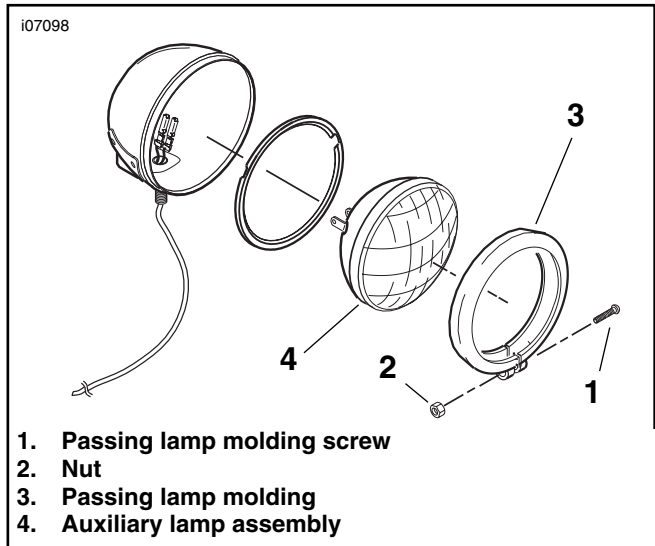
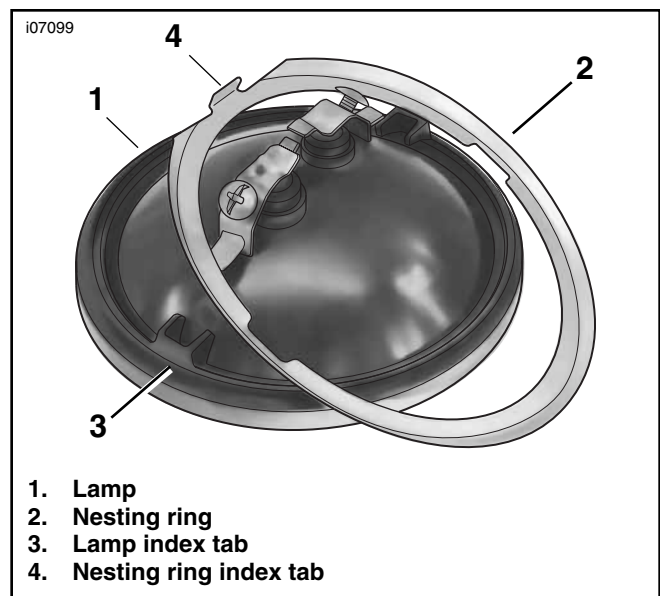

Figure 1. Auxiliary Lamp Components
Figure 2. Lamp and Nesting Ring
2. See Figure 1. Remove passing lamp molding screw (1) and nut (2) from passing lamp molding (3). Remove molding and hardware. Retain for future use.
3. Disconnect the wire harness plug from back of auxiliary lamp assembly (4).
4. See Figure 2. Remove assembly (1) and nesting ring (2). Discard lamp but retain nesting ring.
6. Connect new wire harness to the new lamp. Locate lamp in housing and be sure to align tabs on lamp (3) with pockets in the nesting ring.